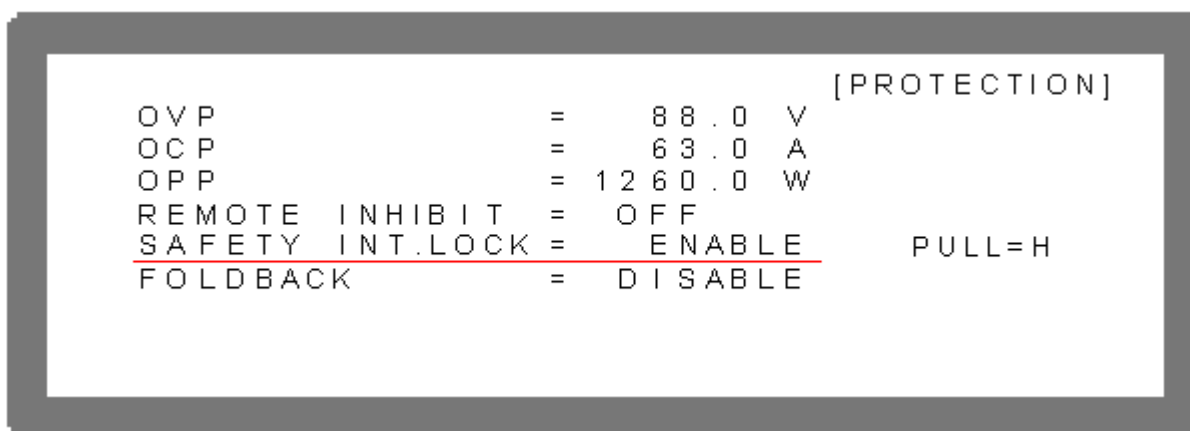

Figure 3-83
1. Use “” & “” keys to move the cursor to the column to be set as Figure 3-83 shows.